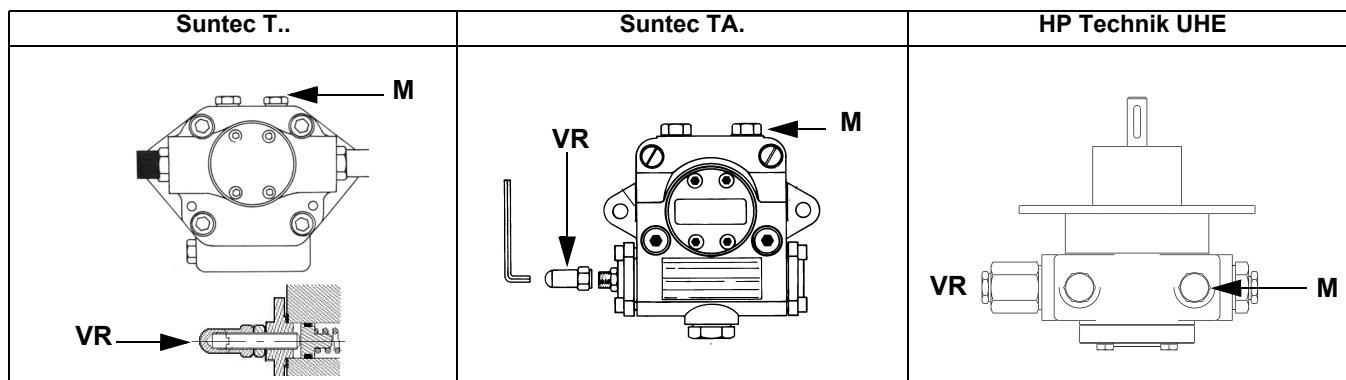
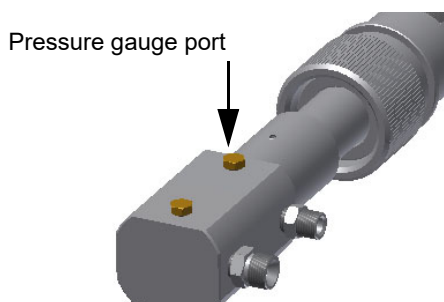

Fig. 4
Fig. 5
- 3 bleed the air from the **M** pressure gauge port (Fig. 4) by loosening the cap without removing it, then release the contactor.
- 5 Only if necessary, adjust the supply pressure as follows (see related paragraph); insert a pressure gauge into the port shown on Fig. 5 and act on the pump adjusting screw **VR** (see Fig. 4) as to get the nozzle pressure at 20bar (Monarch or Fluidics nozzles - see page 44-38).
- 2 Remove screws 1 ÷ 4 using the Allen key n. 3 and remove filter cover 5 in Fig. 5.
2. Slide VD forward up to the stop, fig. 4.
3. Screw VD on with 2 M5 screws for each, max. 5 Nm/44 in.-lb., fig. 5/6.